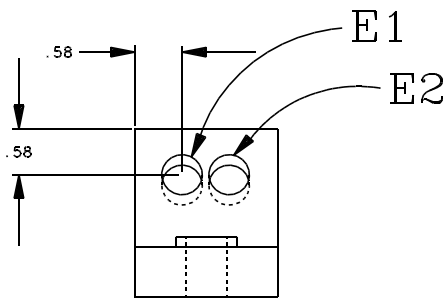

Figure 40
- 123. Click on E1 (the left side top ellipse), as shown in Figure 40.
- 125. Click on E2 (the right side top ellipse). (See Figure 40.)